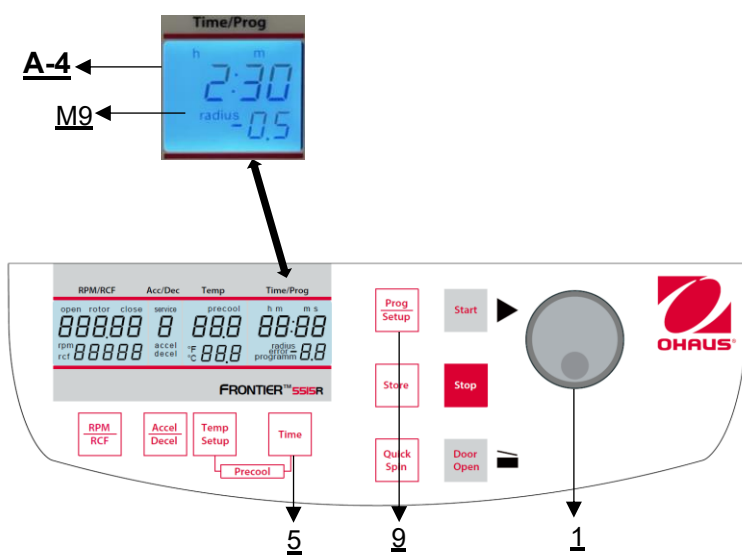

Figure 21
First, close the centrifuge lid, then press the key **"Time"** (5) and the key **"Prog/Setup"** (9) at the same time and hold them (see **Figure 21**).